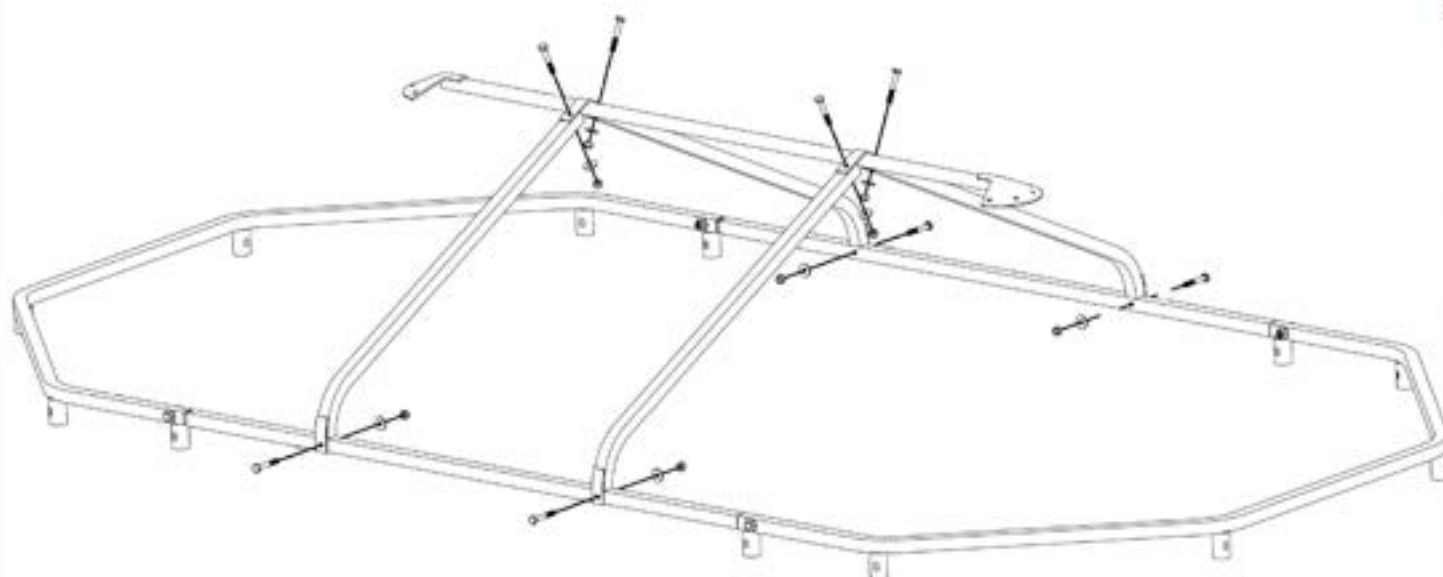

Figure 3.
**Step 3.** Assemble the four front and rear roof ribs to the roof main frame and the roof ridge using eight  $\frac{1}{4}$ " x 1- $\frac{3}{4}$ " socket head bolts, eight washers and eight nuts. **Place washers under the nuts only, none under head of bolt as seen in Figure 3.** Snug the nuts but do not tighten them at this time.